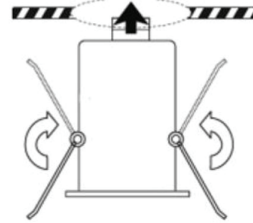

Fig. 4
- Lift both spring clips on the sides of the fitting and push into the ceiling (see Fig. 4)